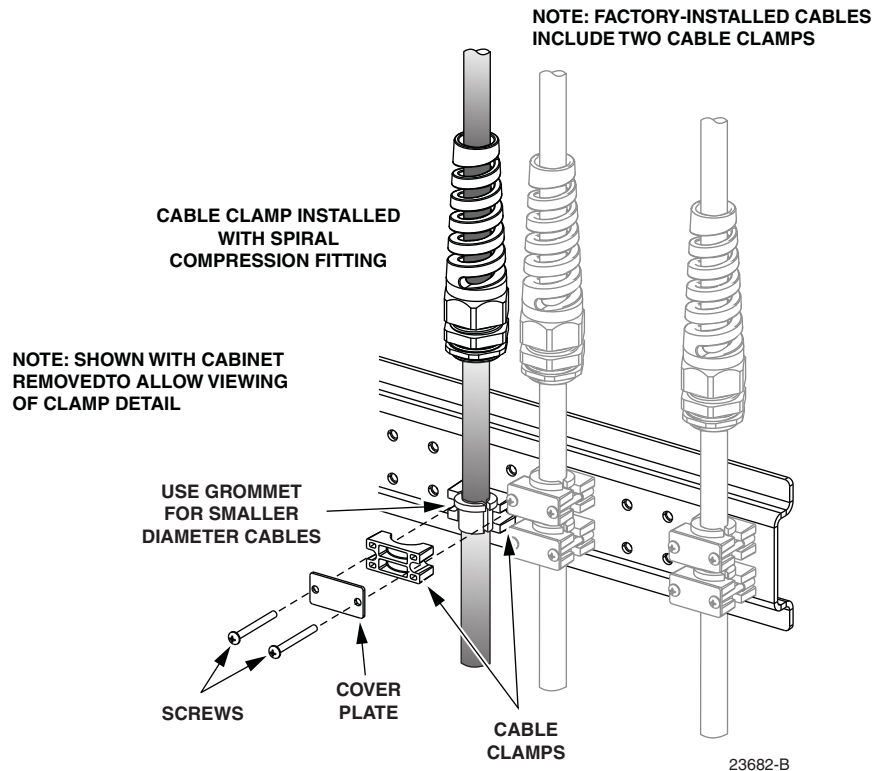

Figure 46. Cable Clamp Assembly
6. Assemble the cable clamp (provided with panel) and grommet (if needed) on the cable as shown in Figure 46.